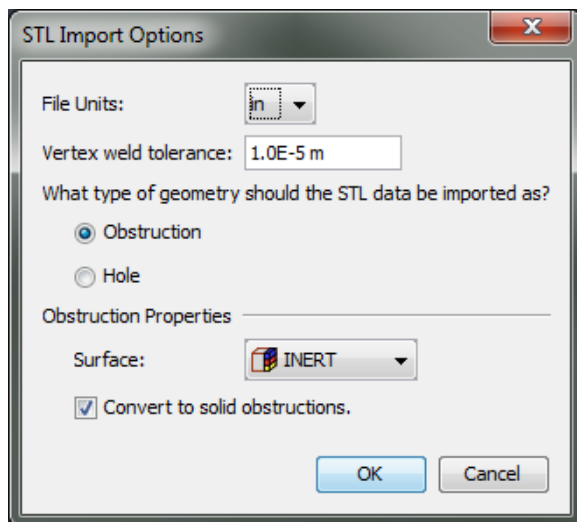

Figure 3.2. STL Import Options dialog
3. Enter the import options in the **STL Import Options** dialog as shown in Figure 3.2.